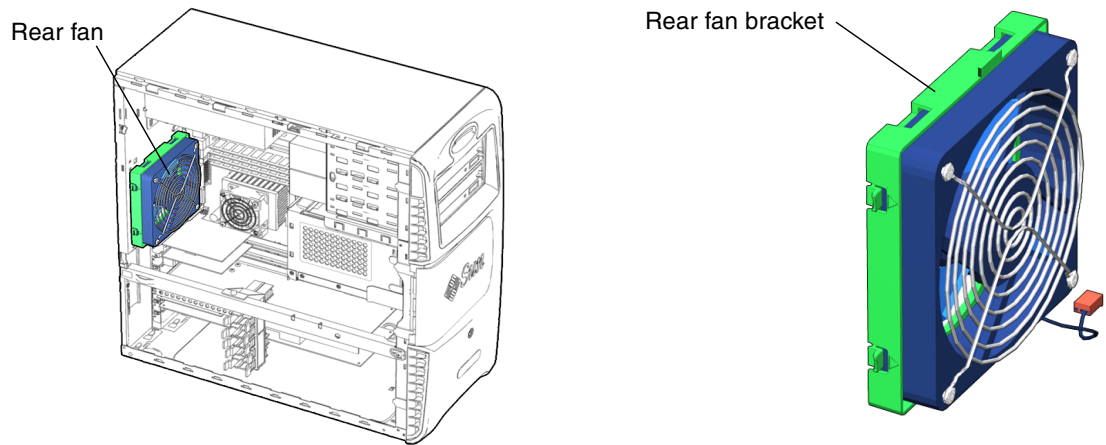
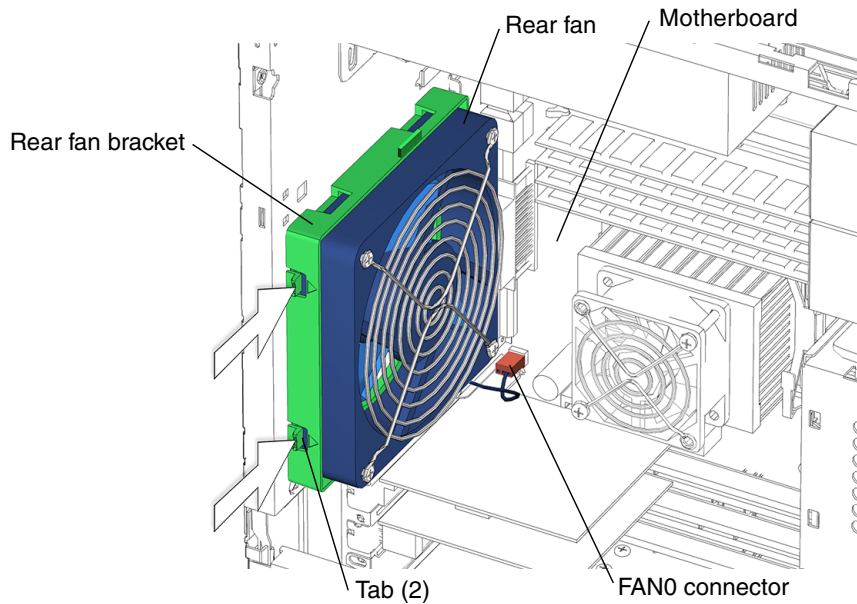

FIGURE 13-16 Rear Fan Location and Identification
FIGURE 13-17 Releasing the Rear Fan Assembly
The rear fan for the Sun Blade 2500 workstation is housed in the rear fan bracket (FIGURE 13-16). To adequately cool the workstation, both front and rear fans must correctly operate. The rear fan is connected to the motherboard at connector FAN0 (FIGURE 13-17).
2. Locate the rear fan (FIGURE 13-16).
3. Disconnect the rear fan cable (FIGURE 13-17).